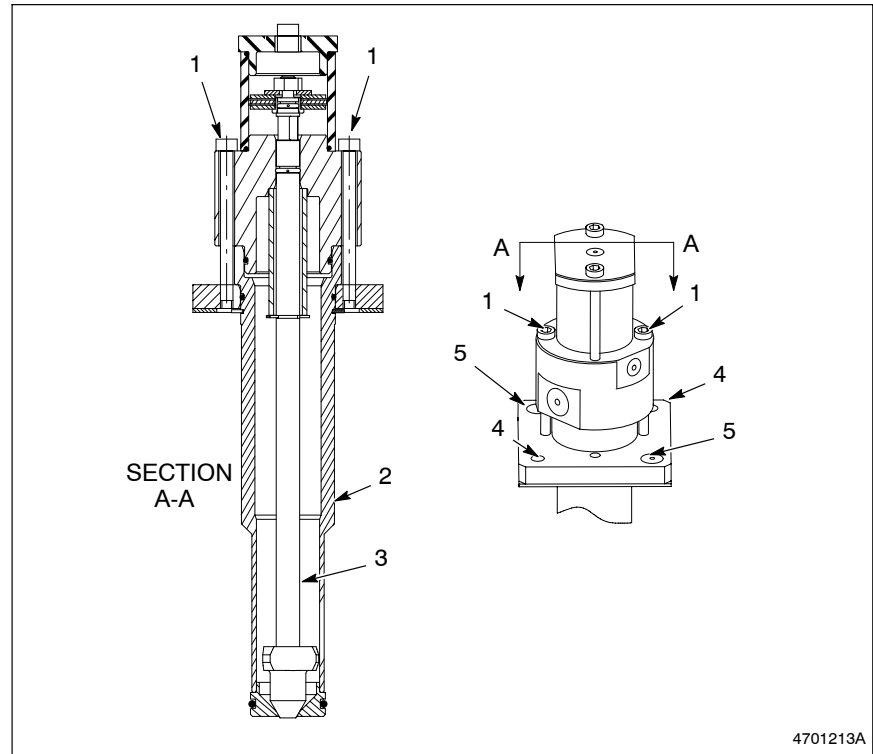

Fig. 5-3 Opening the Manifold Drain Valve
6. See Figure 5-3. Remove the 2 blow-off valve assembly screws (5) and remove the needle assembly (3) and tube (2).